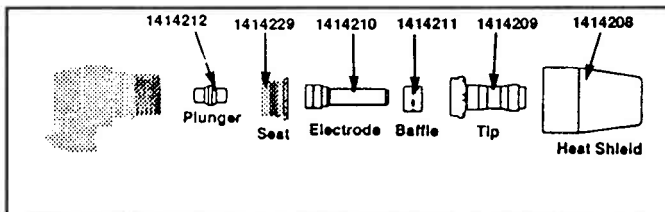

Fig. 3 PT - 50 Consumables
ASSEMBLING PT-50 TORCH CONSUMABLES - see Fig. 3
Remove the Seat (1414229) from the torch using a suitable spanner. Insert a Plunger (1414212) into the head (the Plunger is reversible). Reassemble the Seat into the torch tightening firmly with a spanner. Install the Electrode (1414210), Swirl baffle (1414211), tip (1414209) and Heatshield (1414208) as shown in Fig. 3 tightening the Heatshield firmly by hand.
1. With the torch head facing up unscrew and remove the heatshield. Examine the heatshield, tip, swirl baffle and electrode, see Fig 3.